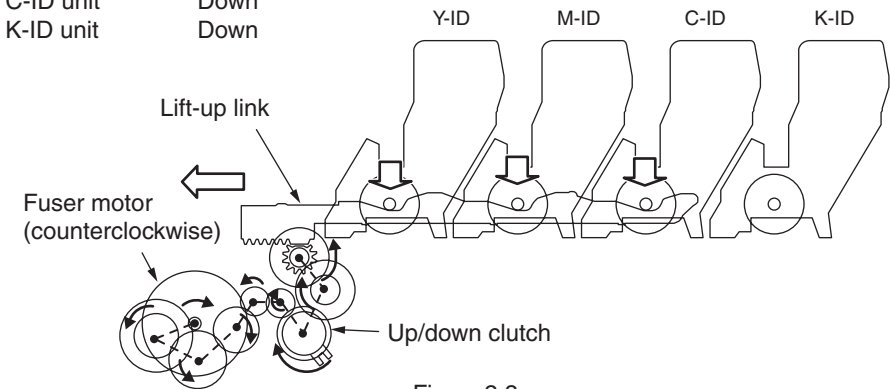

Figure 2-3
2. Figure 2-3 shows the motions of each of the ID units when the printer is operated for color printing. As the lift-up motor runs (counterclockwise) with the up/down clutch ON, the lift-up link slides to the left causing the ID units to come down as shown in Figure 2-3. In that state, color printing is available.